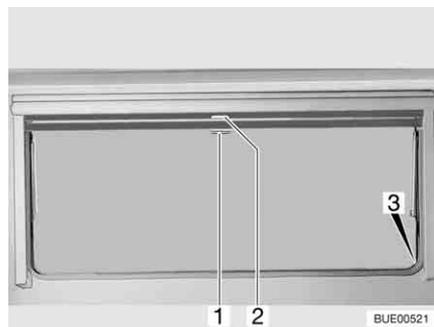

Fig. 100 Hinged window
- Pull blind at the handle (Fig. 100,2) downwards. If the blind is to be completely closed, it is suspended into the locking devices (Fig. 100,3) situated on both sides of the window frame.
- If the blind is completely closed: Press handle (Fig. 100,2) downwards and, at the same time, tilt it slightly inward. The blind can be taken out of the locking devices situated on both sides of the window frame.
- If the blind is in an intermediate position: Pull the handle (Fig. 100,2) slightly downwards until the locking device releases.
- Pull insect screen at the handle (Fig. 100,1) down and hang it into the locking devices (Fig. 100,3) situated on both sides of the window frame.
- Press handle (Fig. 100,1) downwards and, at the same time, tilt it slightly inward. The insect screen can be taken out of the locking devices situated on both sides of the window frame.